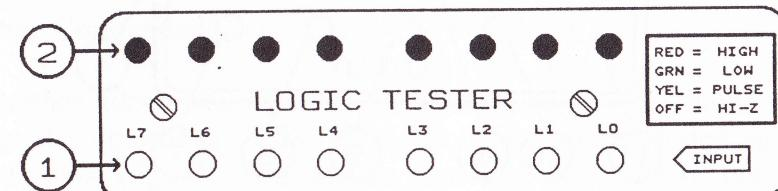

Figure 6
The eight bits LOGIC PROBES are noteworthy in that, each of them can show logic LOW, HIGH, PULSE and Hi-impedance state of a point. That is they are Four-State logic probes. The **Hi-impedance** state conforms to one of "Tri-state", "Faulty output", "Broken wire", "Insertion to a blank hole" or "Insertion of the wire sleeve into the connector". Conventional logic probes show such state as logic "Hi", while, a voltmeter shows "zero". The logic probes of MICROLAB display such condition as "Hi-Z". INPUT terminal (1) and Indicator (2) are shown in fig. 6